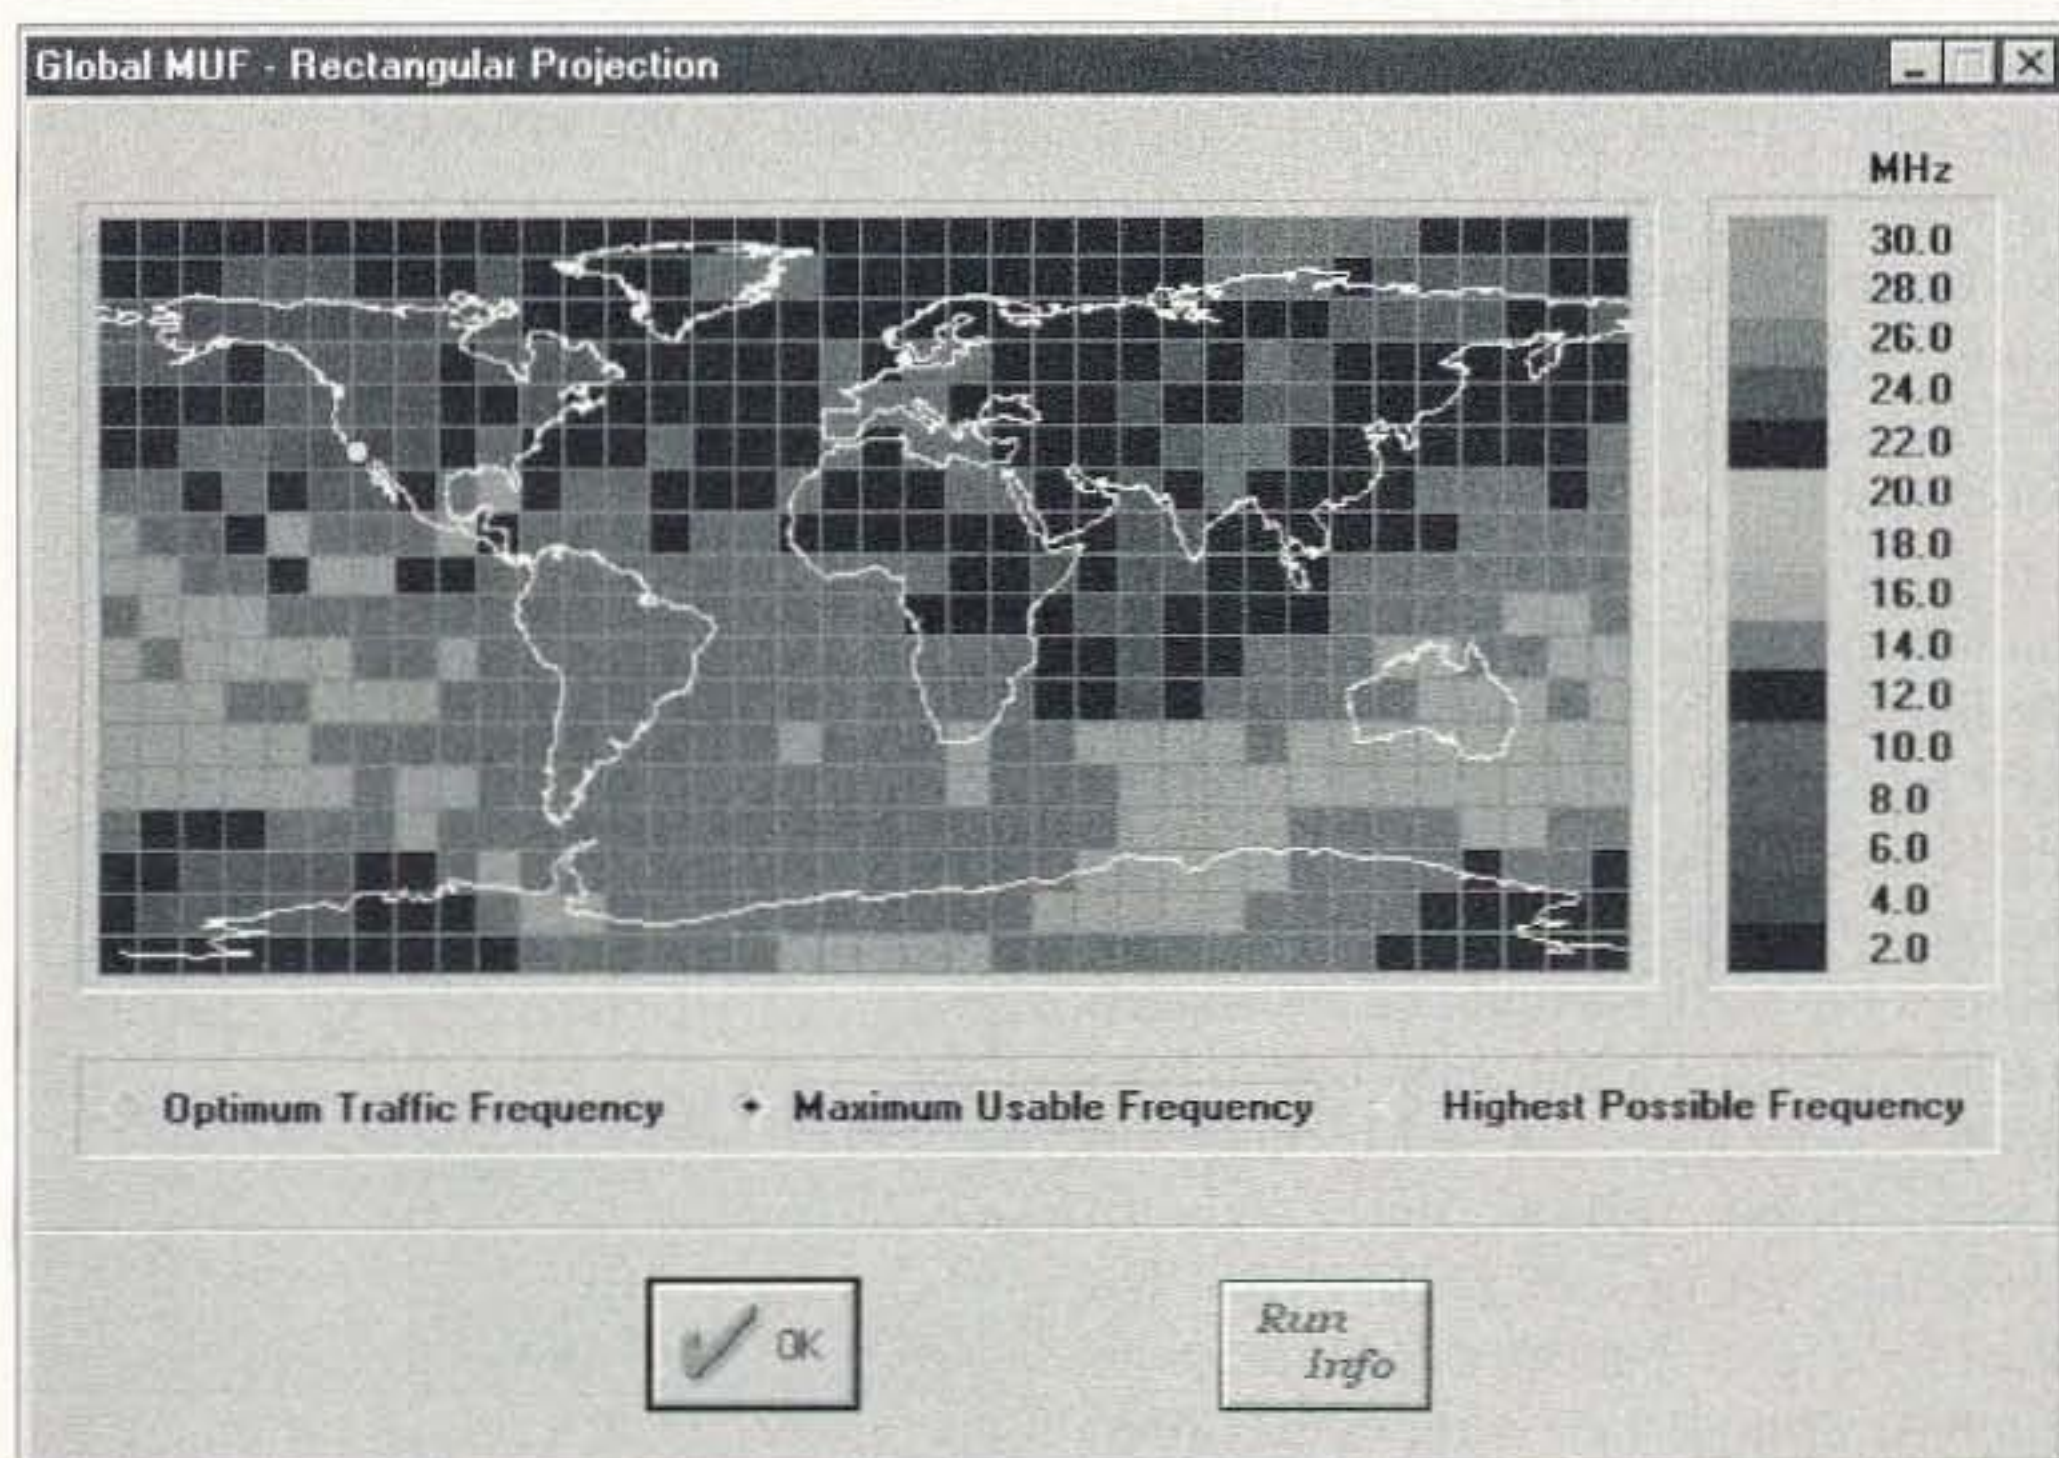

Fig. 1a. World view showing Maximum Usable Frequencies for transmitter location, date and time.
- Global MUF, which is displayed by user choice on a flat or spherical world map that can be configured for Highest Possible Frequency, Maximum Usable Frequency or Optimum Traffic Frequency. (See Figs. 1a and 1b.)